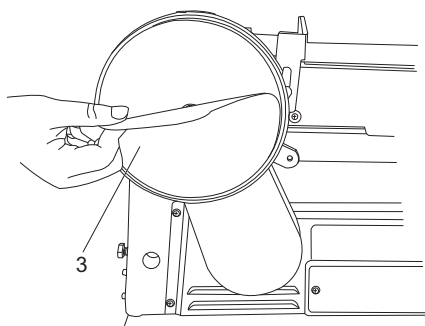

Fig. 37
- > Please replace the sanding disc (3) damaged or worn by a similar disc. (Fig. 37)
- > Using the two screws and washers securely tighten the disc guard (21) into place.